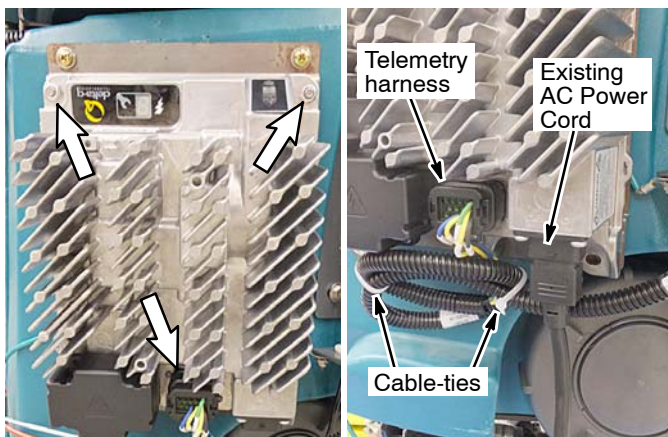

FIG. 23
9. Attach the new battery charger to the mounting bracket. Use three lock nuts supplied with kit. Plug the telemetry harness connector into charger. Secure the telemetry harness with cable-ties as shown (FIG. 23). Plug existing AC power cord from old charger into new charger (FIG. 23).